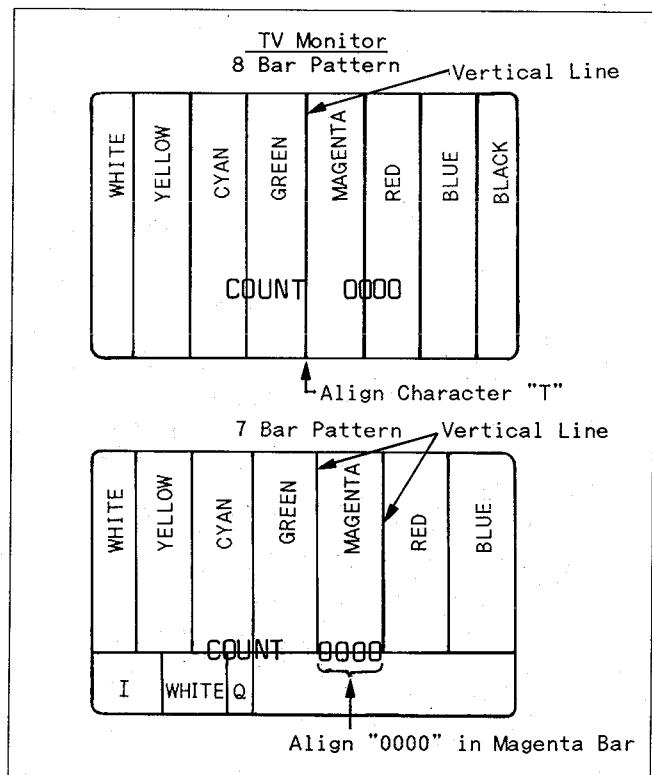

Fig. E11
2. Adjust the OSD POSITION (C3043) on the Video Signal Process Section from the Component Side through a Hole in shield cover so that the Character on the TV/MONITOR SCREEN aligns with the Vertical Line of the Color Bars as shown in Fig. E11.